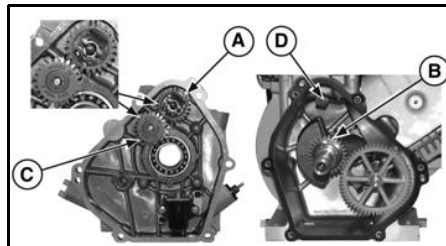

Figure 9
The mechanical governor is part of the crankcase cover. The governor gear (A, Figure 9) is driven by the crankshaft timing gear (B) through an idler gear (C). The governor crank (D) is mounted in the cylinder assembly.